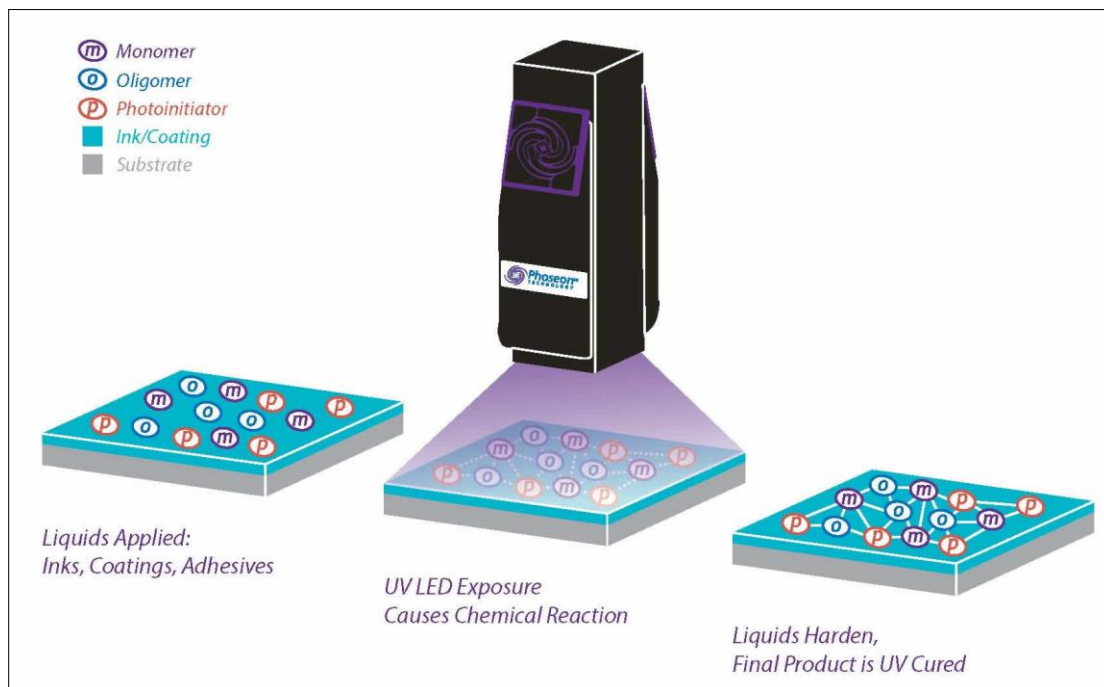

Figure 1: UV Curing Photopolymerization Process
Ultraviolet (UV) curing is a photopolymerization process that uses UV energy to change a liquid to a solid. Upon absorption of the UV energy, as shown in Figure 1, the photoinitiator (PI) produces free radicals which initiate cross-linking with binders (monomers and oligomers) in a polymerization reaction to cure or solidify the ink, coating or adhesive, usually in a few seconds.